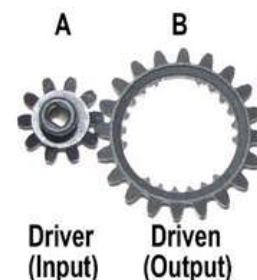

Figure 1
By joining together two or more gears of different sizes, both the speed and the torque are changed from the input gear to the output gear. The larger gear within a system will always move slower and have more torque than the smaller gear. Gear Ratio (GR) is a comparison between the driver gear, also called the input (connected to the power source), and the gear being driven, or the output. Below are four examples of ways to determine the gear ratio in figure 1.